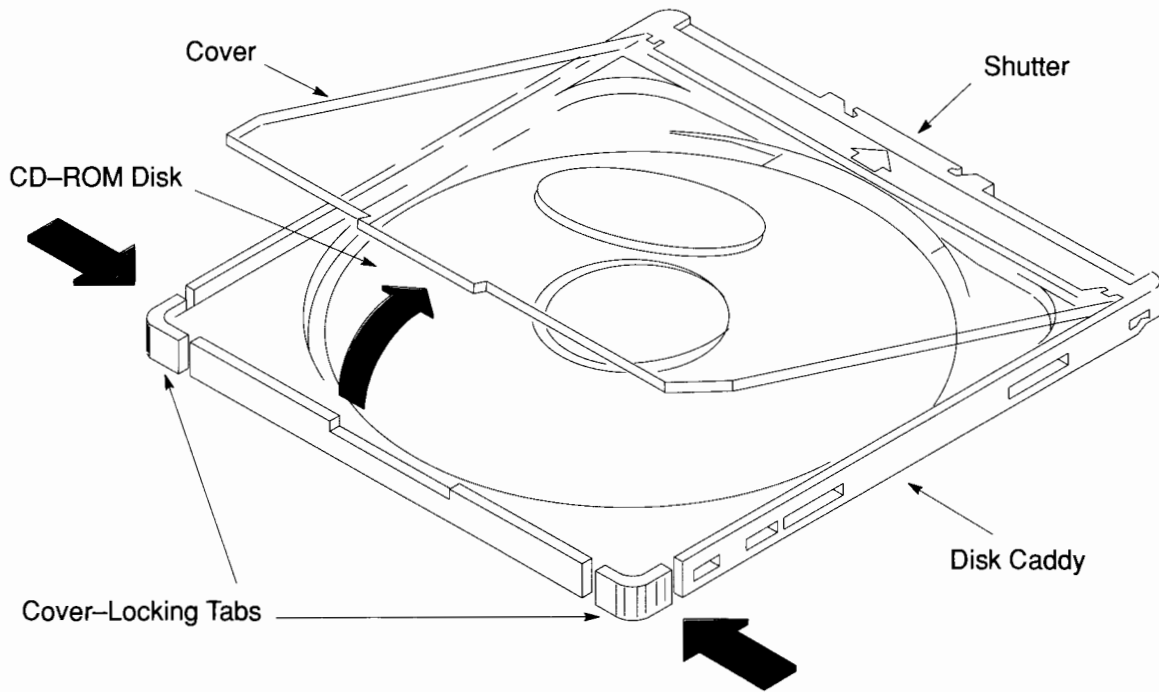

Figure 4-1. CD-ROM Disk and Disk Caddy
To open the CD-ROM disk caddy, press inward on the two cover-locking tabs and lift the cover, as shown in Figure 4-1.
1. Open the disk caddy by pressing inward on the two cover-locking tabs and lifting the cover, as shown in Figure 4-1.